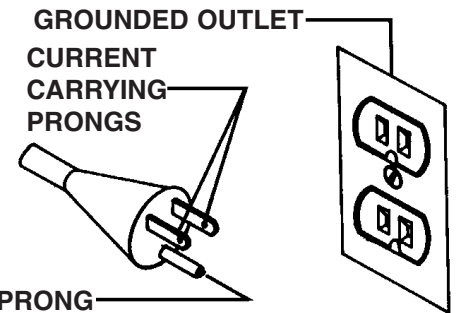

FIGURE 1
**WARNING:** YOUR BANDSAW IS WIRED AT THE FACTORY FOR 110-120V OPERATION, IT MUST BE CONNECTED TO A 110-120V/15-AMP. TIME DELAY FUSE OR CIRCUIT BREAKER. FAILURE TO CONNECT IN THIS WAY CAN RESULT IN INJURY FROM SHOCK OR FIRE. This bandsaw is intended for use on a electrical circuit that has an outlet and a plug which looks like the one illustrated in Fig.1.